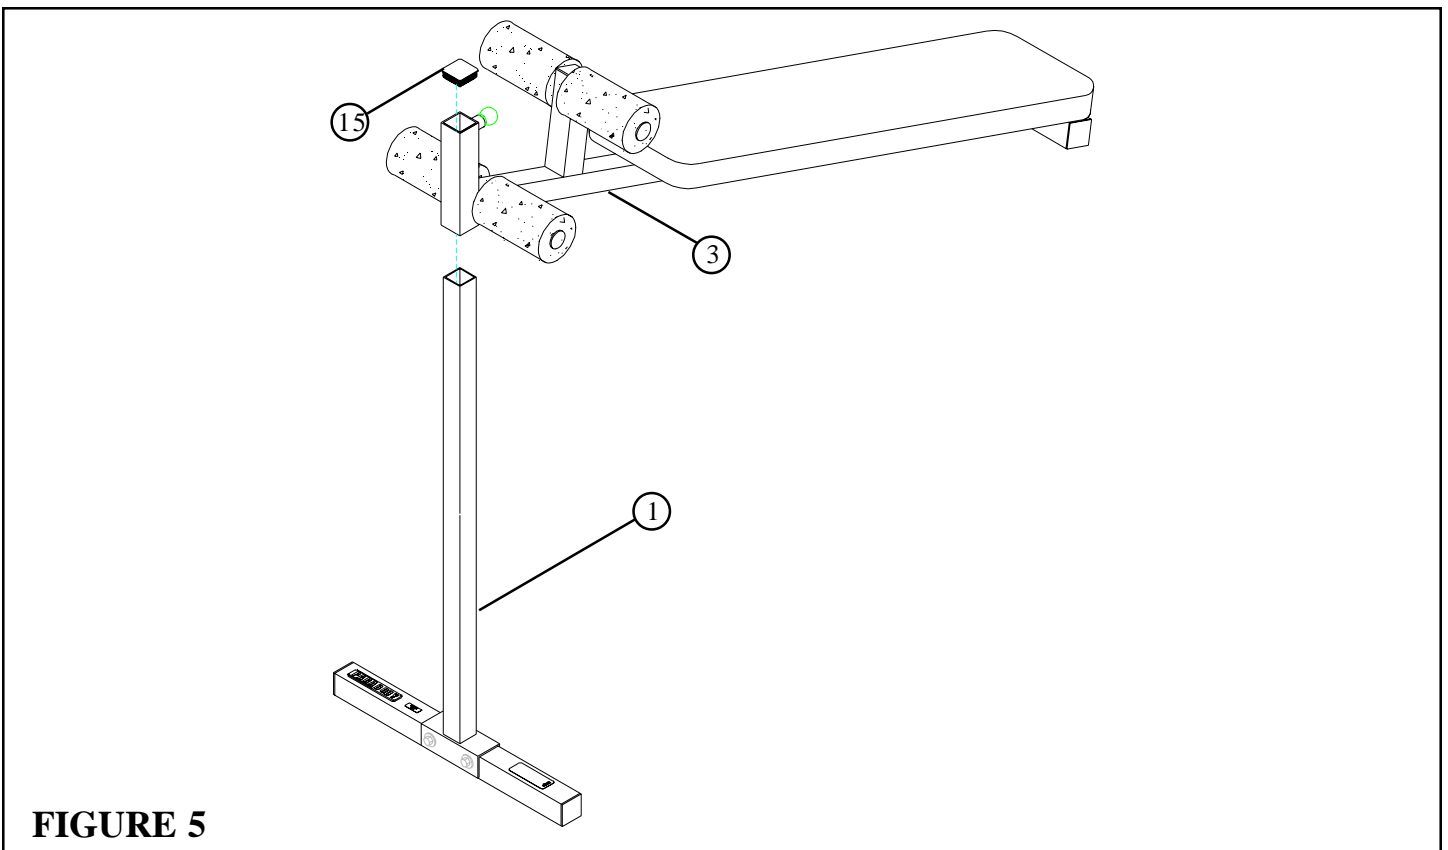

FIGURE 5
- Pull back the SPRING PIN and **CAREFULLY** slide the MAIN PAD SUPPORT (3) over the FRONT BASE SUPPORT (1) as shown in FIGURE 5.
- Insert one 1-3/4” SQ. END CAP (15) into the end of the FRONT BASE SUPPORT (1) as shown in FIGURE 5.